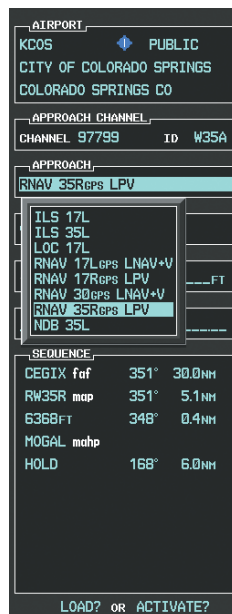

Figure 5-124 List of Available Approaches
c) Press the **ENT** Key. A list of available approaches for the destination airport is displayed as in Figure 5-124.
d) Turn either **FMS** Knob to select the LPV approach for 35R as shown in Figure 5-124.